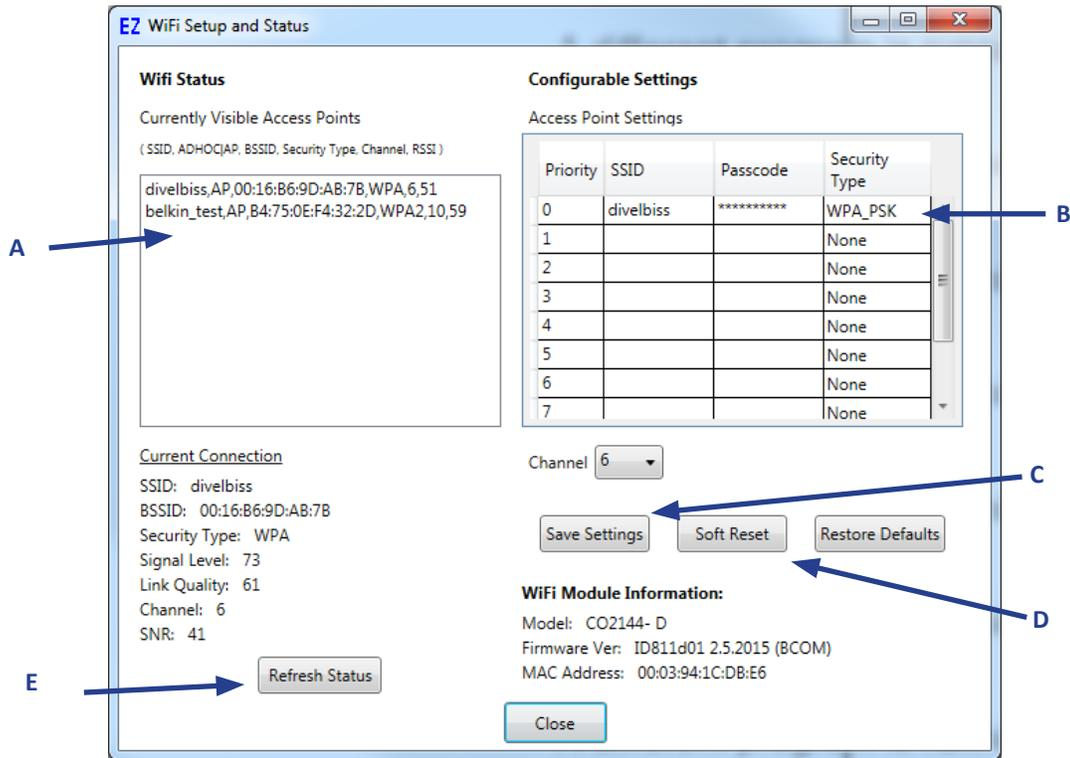

Figure 2-29 - WiFi Setup and Status
5. The **WiFi Setup and Status** window will open. An intermediate temporary dialog may be seen while the on-board Wi-Fi module is accessed and the current Wi-Fi setup read. Refer to Figure 2-29.
6. Referring to Figure 2-29, the *Currently Visible Access Points* (item A) pane shows all the networks currently in-range for the Wi-Fi to detect. **The network must be in-range to be configured.**
7. In the Access Points Settings, enter the **SSID** and **Passcode** in their respective places (item B). It will be necessary to double-click to enter the values. Refer to Figure 2-29.
Multiple Wi-Fi networks may be saved by adding them to list shown in Figure 2-29. Each setting is stored in the on-board Wi-Fi module and is maintained during a power loss. The priority of Wi-Fi network to connect to is based on the priority number in the list.